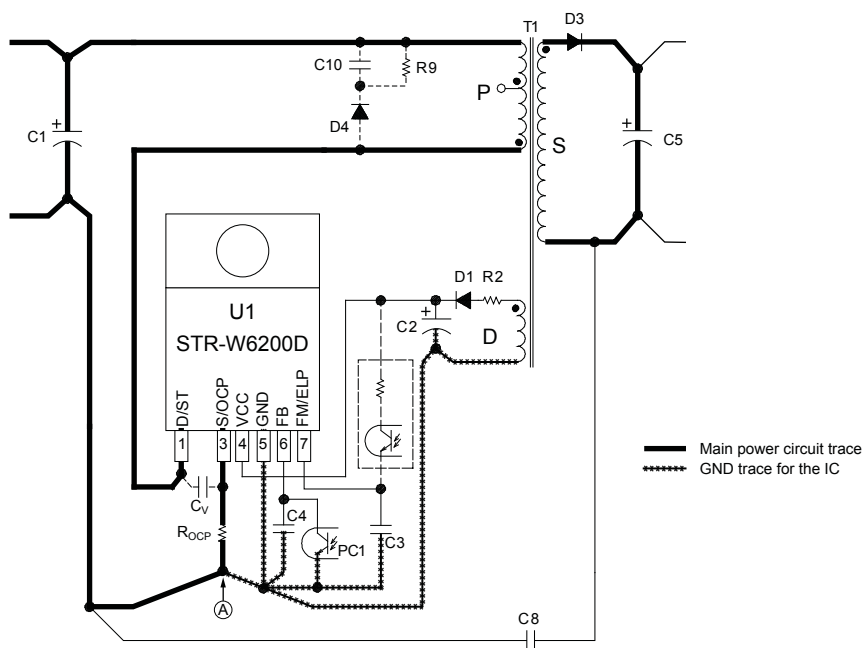

Figure 27. Peripheral circuit example around the IC
Figure 27 shows a circuit layout design example for the IC peripheral circuit and secondary smoothing circuit.
- **R_{OCP} Trace Layout:** R_{OCP} should be placed as close as possible to the S/OCP pin. The connection between the power ground of the main trace and the control circuit ground should be at a single point ground (A in figure 27) to remove common impedance, and to avoid interference from switching currents to the control circuit.